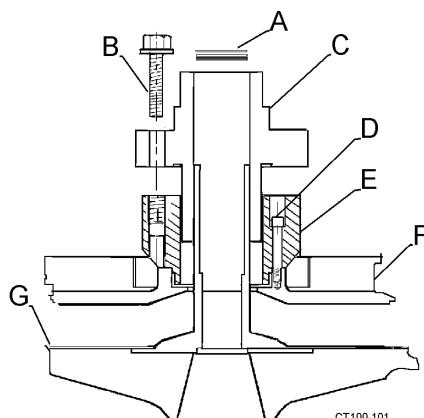
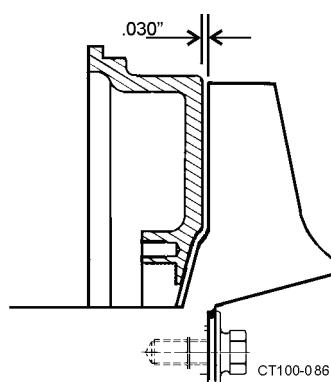

Figure 55 - Remove Seal Assembly.
Figure 56 - Clearance Between Impeller and Backplate
Table 17: Callouts for Figure 55
NOTE: The clearance shims that position the impeller within the casing are at the end of the impeller hub (inside the seal.) Keep shims together as a set for reassembly. See Figure 55.
5. Remove cap screws (Figure 55, item B) holding the cartridge seal to the seal adapter. (See Figure 55, items C and E).
7. Pull seal from seal adapter. (See Figure 55, items C and E).
8. Remove seal adapter by removing socket head cap screws (Figure 55, item D) holding adapter to the back plate.
2. Check the impeller/backplate clearance with the backplate held firmly in position against the motor adapter. Check the space between the back of the impeller and the backplate with a feeler gauge (.030 nominal) while holding the backplate tight against the bearing housing flange. (Any axial movement of the shaft should not be added to the .030 nominal clearance). See Figure 56. If needed, change this clearance by adding or removing shims. Shims (Figure 55, item A) can be added on the drive shaft behind the impeller shaft (Figure 55, item G).